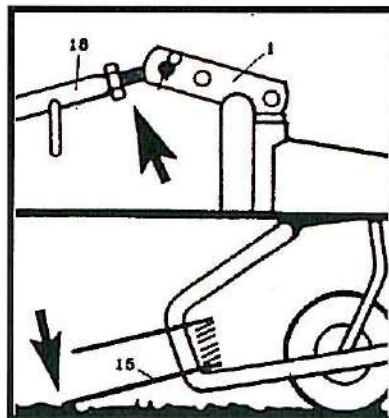
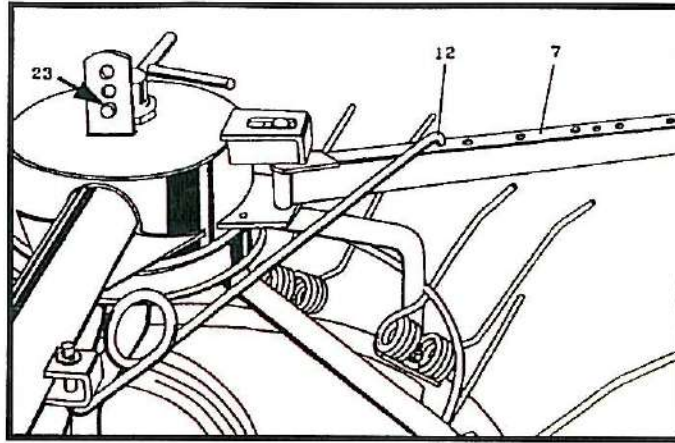

Fig. 7. Setting the raking teeth
Fig. 8. Setting the height of rotors in the bottom holes.
- Use front or back holes of the three-point frame 1 to fasten the central connector of tractor's three-point suspension system according to its length (Fig. 7.)
- Endings of the bottom arms of double raking teeth 15 (Fig. 7.) should touch the stubble during rotation. If they do not touch the stubble or plunge into the ground, adjust the slope of rotors.
- Adjust slop of the rotors by changing the height of the rotors due to driving wheels cantilever (Fig. 8. and 9.) and the length of central connector 18 (Fig. 7)
- Set the height of rotors with the locks 23 (Fig.8.) put in low holes. When the crop is short and heavy, use higher holes.
- Move the tractor slightly forward until exposing the central hole 22 in the three-point frame 1 (arrow at Fig. 8.). In that position rotors are most tilted to the ground. Now set the full revolutions power (350 – 540 rpm). Endings of teeth should touch the ground (Fig. 7.). If teeth do not touch the ground or plunge into the ground, change the length of the central connector.
- Wide and narrow teeth fasten alternately as shown at Fig. 7., 14., 16. and 21. (for the left rotor).
- way of settling the locks 23 (Fig. 8. and 9.)